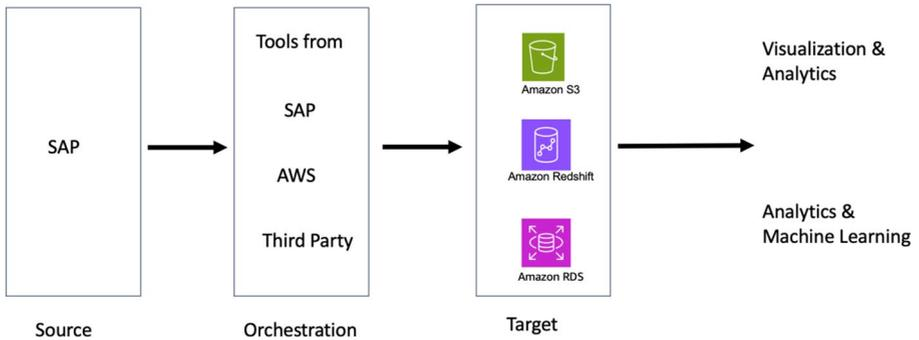

Figure 1-9. *The journey of data*
valuable resource for finding answers to business questions or identifying patterns to aid in predicting experiences. With these extensive capabilities, data is able to tell stories. As depicted in Figure 1-9, AWS offers a platform and special services to facilitate the entire journey of data, providing optimization tailored to each and every use case.
As shown in Figure 1-9 depicting the journey of data, once you have your data foundation, it's all about using this data for data-driven decision-making, and to use it for machine learning (ML). First of all, we need to establish working definitions for artificial intelligence, machine learning, generative AI, and other related terms.